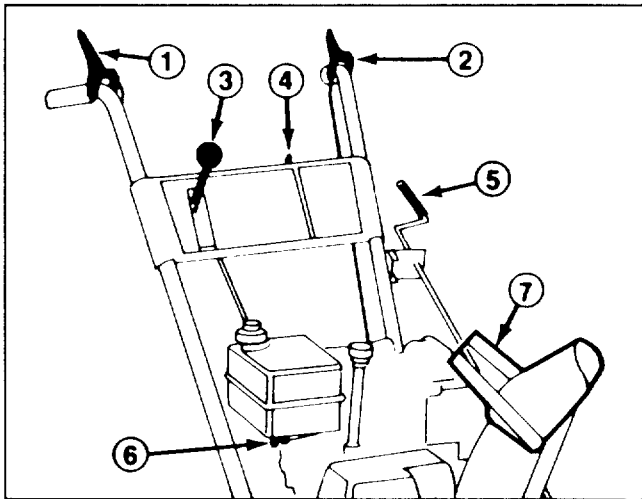
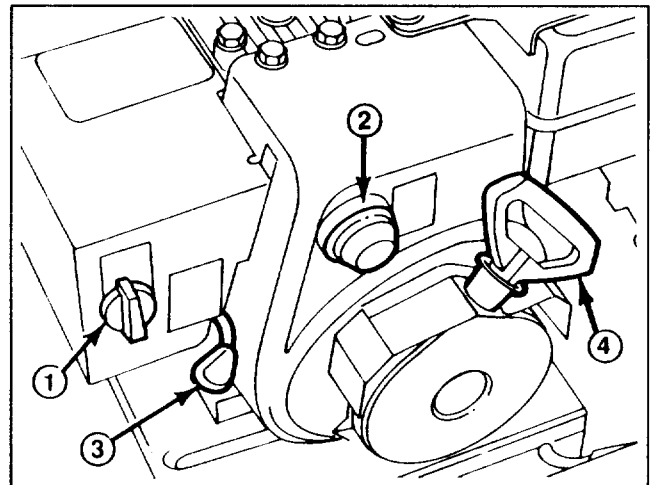
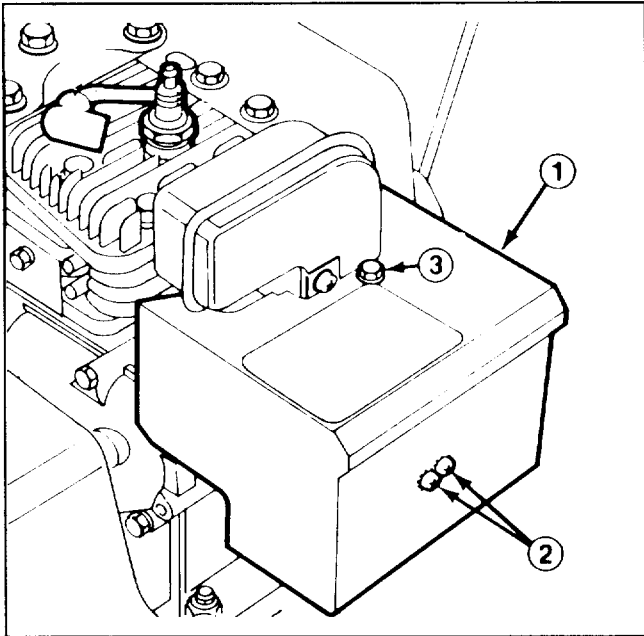

Figure 14
Figure 15
Figure 16
Auger Drive Control (Fig. 14)—Control has two positions: ENGAGE and DISENGAGE. To engage both auger and impeller, compress lever against right handgrip. To disengage, release lever.
Traction Control (Fig. 14)—To engage traction (wheel drive), lever must be compressed against left handgrip. To stop traction, release lever.
Speed Selector (Fig. 14)—The control has four positions: reverse, 1, 2 and 3. To change speeds, move gear shift to position desired. Lever will lock in notch at each speed selection. Use positions 1, 2 or 3 depending on snow conditions.
Ignition Switch (Fig. 14)—Switch has two positions: ON and OFF. Rotate key to ON position before starting engine with the recoil starter. To stop engine, rotate key to OFF.
Throttle (Fig. 15)—Moving the throttle upward increases engine speed.
Choke (Fig. 15)—Rotate choke to FULL choke position to start a cold engine. As engine warms up, move choke gradually to OFF.
Primer (Fig. 15)—Press primer to pump a small amount of gasoline into engine for improved cold weather starting.
Fuel Shut-Off Valve (Fig. 14)—Valve is located under fuel tank. Close valve to stop fuel flow from fuel tank and open valve to allow fuel to flow to the carburetor. Close valve when snowthrower is not in use.
Discharge Chute Control (Fig. 14)—Rotate discharge chute control clockwise to move discharge chute to the left and counterclockwise to move chute to the right.
Recoil Starter (Fig. 15)—Recoil starter is on back side of engine. Pull recoil starter to start engine.
Chute Deflector Handle (Fig. 14)—Deflector handle is on top of discharge chute, and it is used to control height of the snow stream.
Note: If engine is operated when temperature is +40° F (4° C) or higher, remove carburetor heater box (Fig. 16). However, the heater box must be reinstalled when temperature falls below +40° F (4° C). To remove heater box:
- A. Remove (2) phillips screws and (1) hex head screw securing heater box in place (Fig. 16). Pull choke knob off choke rod (Fig. 15).
1. Move throttle (Fig. 15) to FAST.
2. Open fuel shut-off valve below fuel tank (Fig. 14).
3. Rotate choke (Fig. 15) to full choke position.
4. Rotate ignition key (Fig. 14) to ON.
6. Grasp recoil starter handle (Fig. 15) and pull it out slowly until positive engagement results; then pull vigorously to start the engine. Keep firm grip on starter handle and return the rope slowly.
7. After engine starts, immediately rotate choke (Fig. 15) to 3/4 position. As engine warms up, rotate choke to 1/2 position; then to OFF position. If engine falters, return choke to 1/2 position. When engine warms sufficiently, rotate choke to OFF position.
1. Release traction and auger drive controls (Fig. 14).
2. Move throttle (Fig. 15) to slow and rotate ignition key (Fig. 14) to OFF.